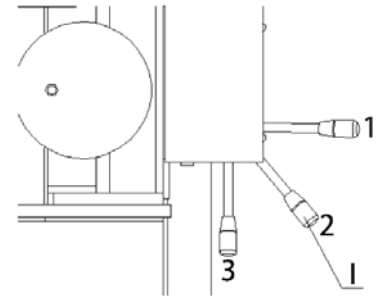

Figure 9
4. Selector valve positions (Figure 9)